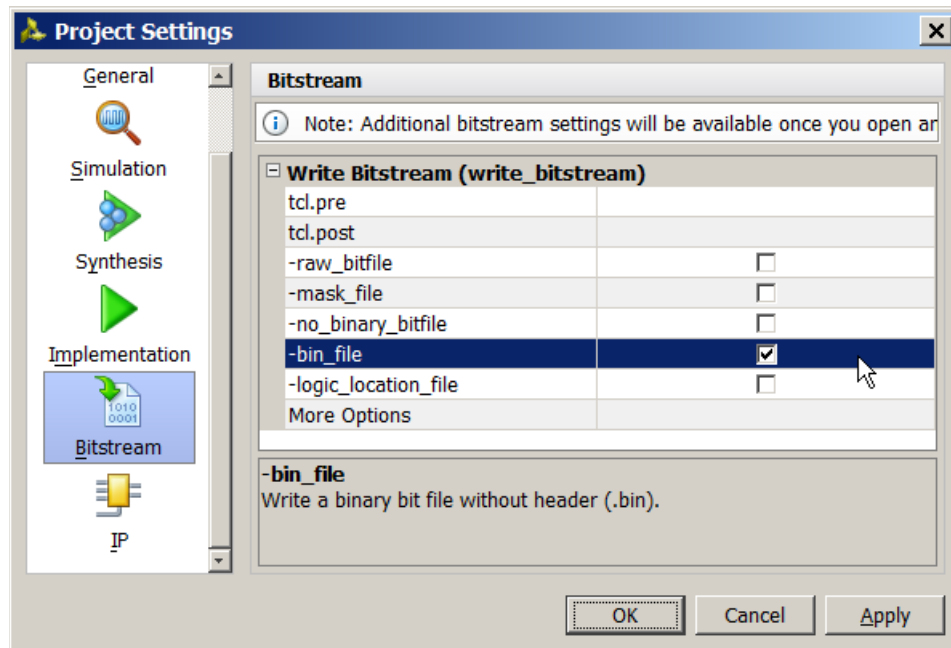

Figure 15: Enabling `-bin_file`
2. In the Project Settings window under the Bitstream settings page, enable the `-bin_file` option as shown in Figure 15.